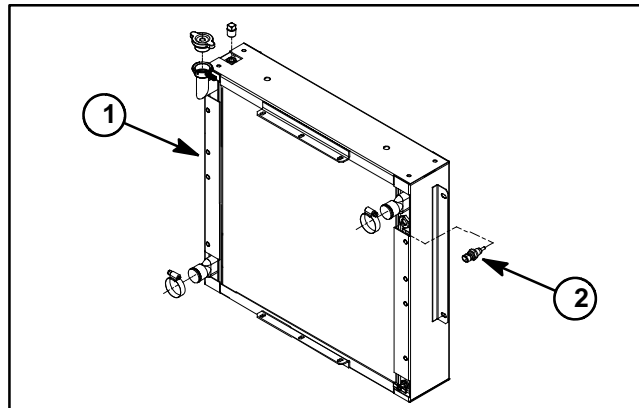
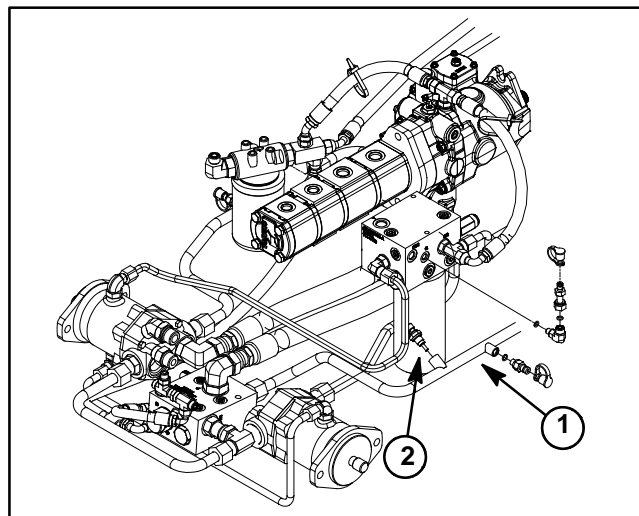

Figure 57
Figure 58
The Groundsmaster 4100-D and 4110-D use two (2) temperature senders as inputs for the TEC-5002 to identify if either the engine coolant or hydraulic oil temperature has reached an excessive level. These senders are identical. The coolant temperature sender threads into the radiator (Fig. 57). The hydraulic oil temperature sender is attached to the hydraulic hydraulic tube on the left side of the machine (Fig. 58).